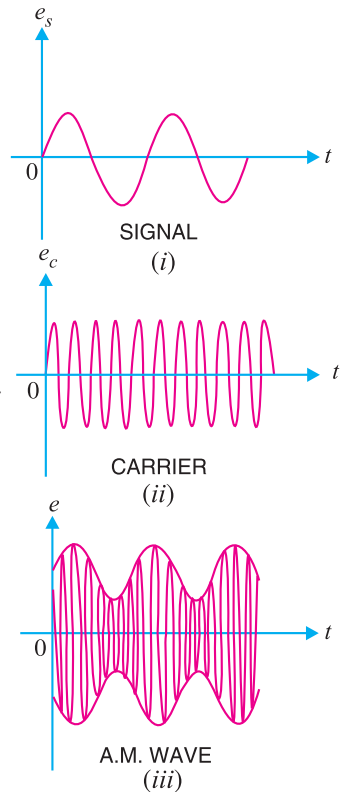

Fig. 16.2
In amplitude modulation, only the amplitude of the carrier wave is changed in accordance with the intensity of the signal. However, the frequency of the modulated wave remains the same *i.e.* carrier frequency. Fig. 16.2 shows the principle of amplitude modulation. Fig. 16.2 (i) shows the audio electrical signal whereas Fig. 16.2 (ii) shows a carrier wave of constant amplitude. Fig. 16.2 (iii) shows the amplitude modulated (AM) wave. Note that the amplitudes of both positive and negative half-cycles of carrier wave are changed in accordance with the signal. For instance, when the signal is increasing in the positive sense, the amplitude of carrier wave also increases. On the other hand, during negative half-cycle of the signal, the amplitude of carrier wave decreases. Amplitude modulation is done by an electronic circuit called *modulator*.